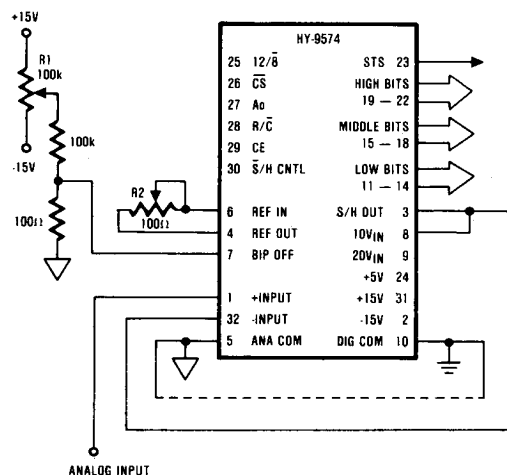

FIGURE 2. UNIPOLAR CONNECTIONS
**Full Scale Calibration Error** — The last transition (from 1111 1111 1110 to 1111 1111 1111) should occur for an analog value one and one-half ( $1\frac{1}{2}$ ) LSB's below the nominal full scale (9.9963 volts for 10,000 volts full scale). The full scale calibration error is the deviation of the actual level at the last transition from the ideal level. This error, which is typically 0.05 to 0.1% of full scale, can be trimmed out as shown in Figures 2 and 3. The full scale calibration error over temperature is given with and without the initial error trimmed out. The temperature coefficients for each grade indicate the maximum change in the full scale gain from the initial value using the internal 10 volt reference.
The HY-9574 is a "complete sampling" A/D converter, meaning it can be fully operational with addition of the power supply voltages, a Start Convert signal, and a few external components as shown in Figures 2 and 3. Nothing more is required for most applications.
**Unipolar Connections and Calibration** — Refer to Figure 2. The resistors shown are for calibration of offset and gain. If this is not required, replace R2\* with a 50 $\Omega$ , 1% metal film resistor and remove the network on pin 7. Connect pin 7 to pin 5. Then connect the S/H output to pin 8 for the 0V to 10V range. Inputs to +20V (5V over the power supply) are no problem for the A/D - the converter operates normally. But the S/H cannot handle inputs over VCC.